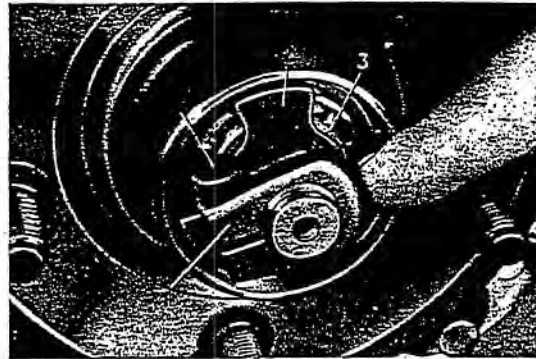

Fig. 33-5/9
- 27. Make an additional check by turning the ground washer between the inner race of the outer annular taper roller bearing and the clamping nut (Fig. 33-5/9, for checking instructions see Job No. 33-0).